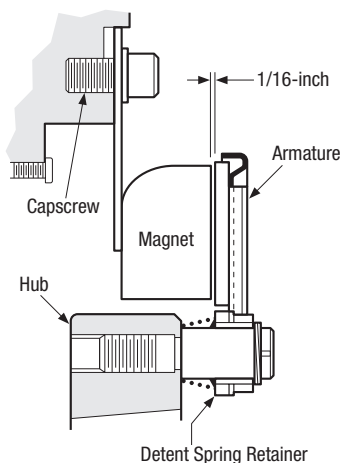

Figure 5
3. Position the assembly to allow a gap of 1/16-inch between the faces of the armature and magnet (Figure 5)